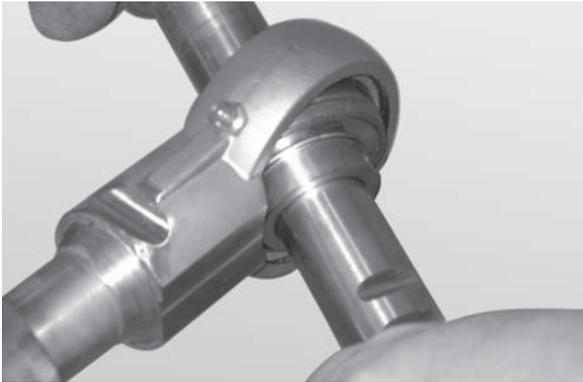

Figure 94
3. Insert the rod end of another bearing shaft through the bearing orifice (**Figure 94**).